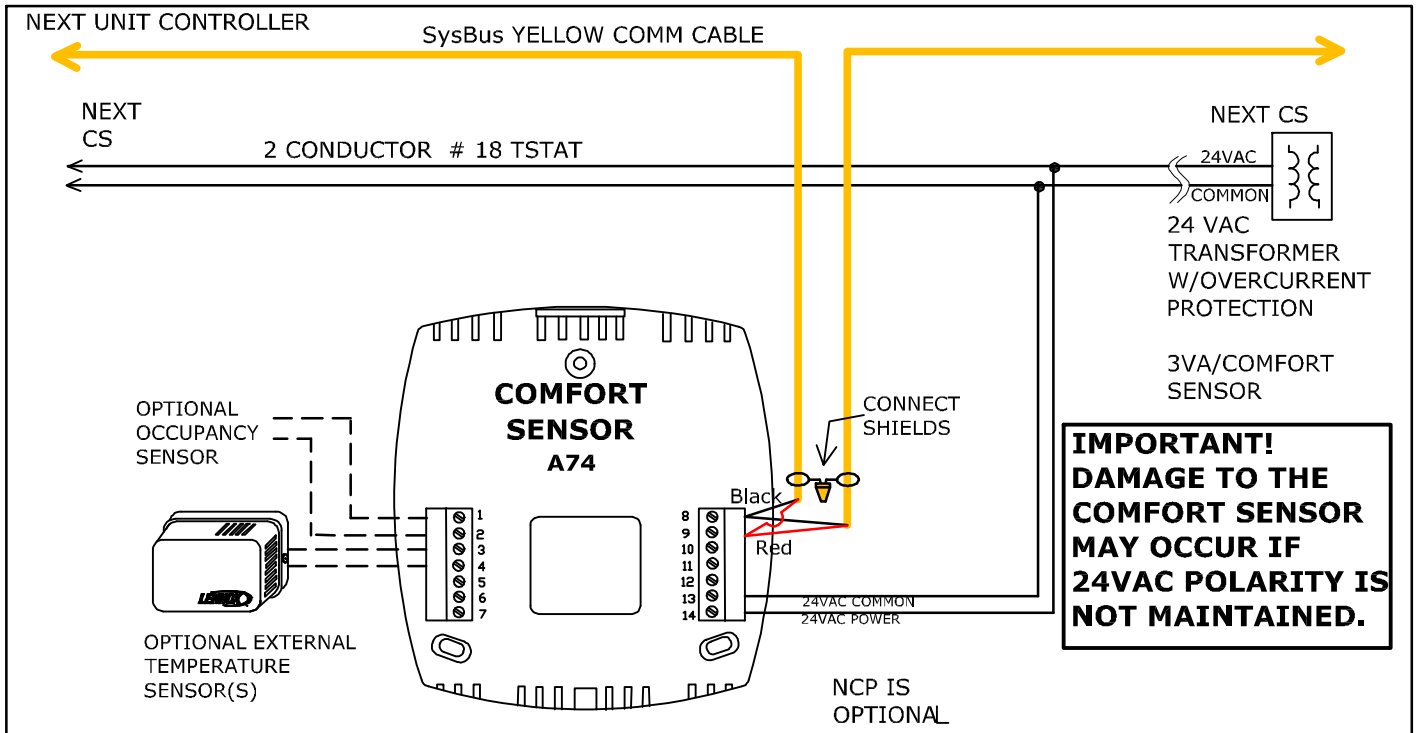

Figure 3. Comfort Sensor (RTU) Control Wiring
6. Pull all cables through the opening in the baseplate. Connect cables as shown in figure 3.